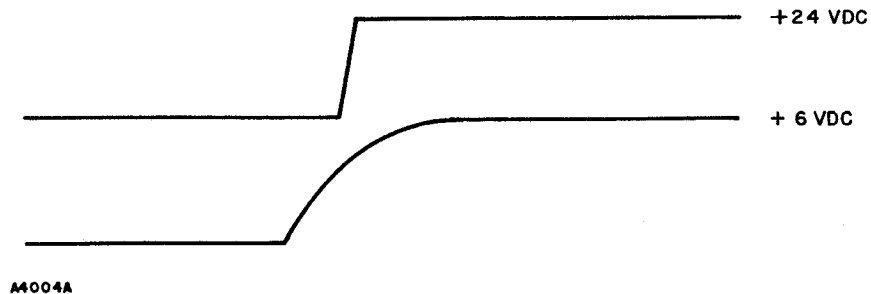

Figure 2-5. Turn-On at Full Load, +24 Vdc Power Supply
The on and off times should be similar to those shown in Figures 2-5 through 2-8.
c. The -6 V supply is checked in the same manner except that the scope (+) lead is connected to the -6 V output (polarity switch to inverted). See Figures 2-5 and 2-6 for resultant waveforms.